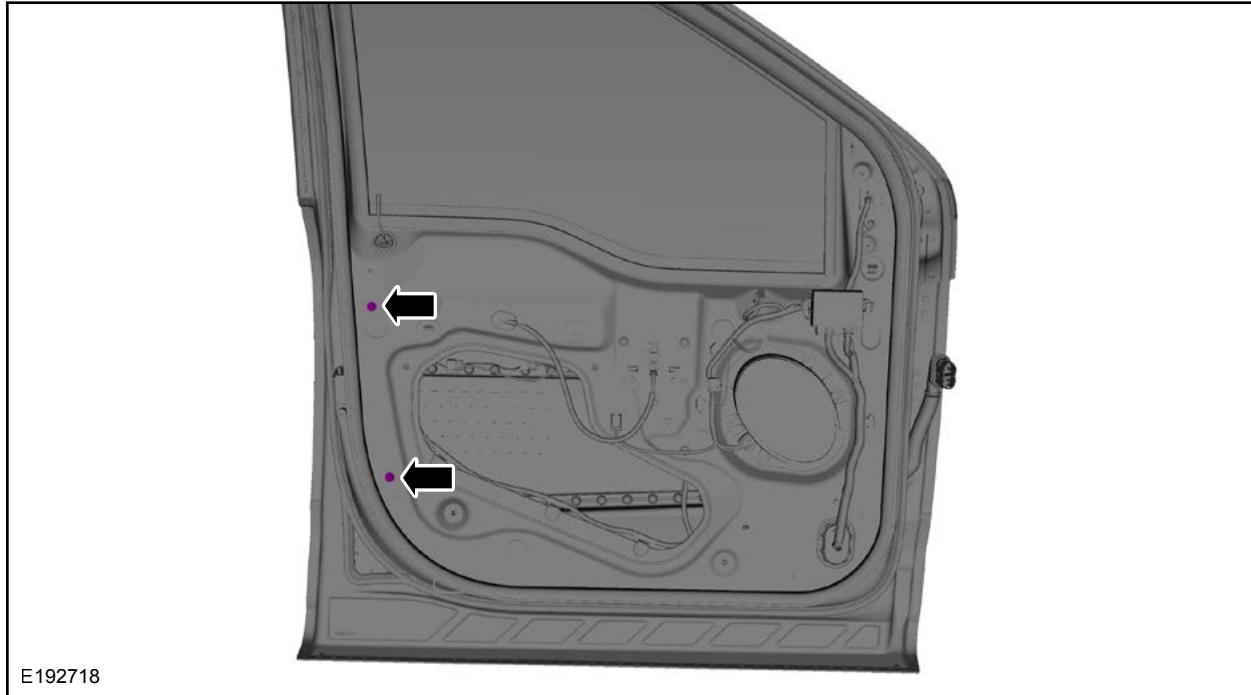

FIGURE 4
6. Loosen but do not remove the two door glass run bolts. See Figure 4.
12. Tighten the three door latch bolts. See Figure 4.